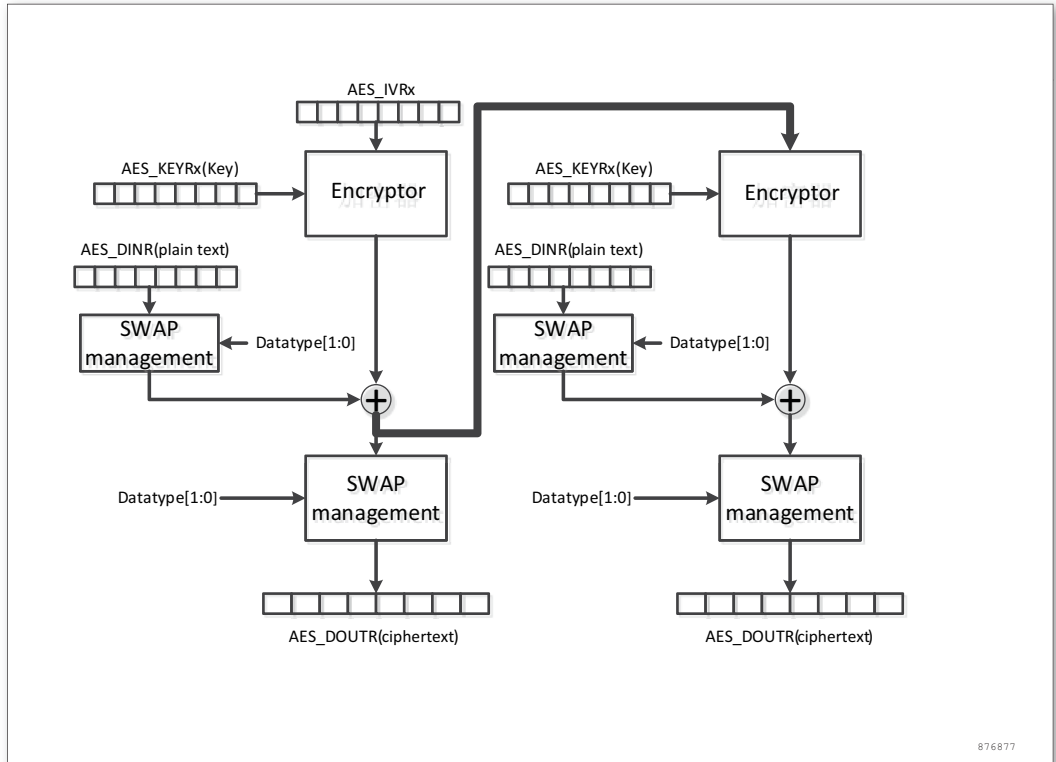

Figure 262. Encryption in CFB Ciphertext Feedback Mode
- XOR the plaintext with the encrypted result of IV to obtain the ciphertext, as shown in Figure 262
- Encrypt the initialization vector by using cipher (IV)
The DATATYPE bits in the AES\_CR register support different swap modes, which are applied to the AES\_DINR register before the data is sent to the AES module and applied to the data output from the AES module on the AES\_DOCTR register (refer to Figure 262).